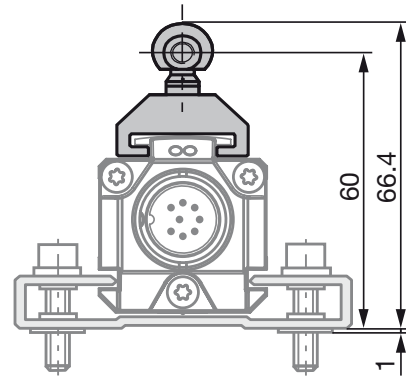
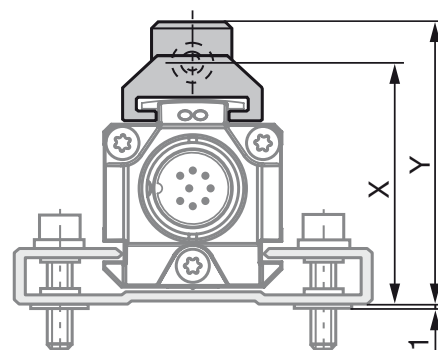
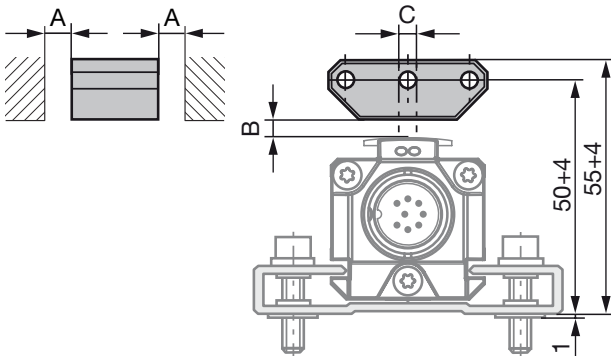
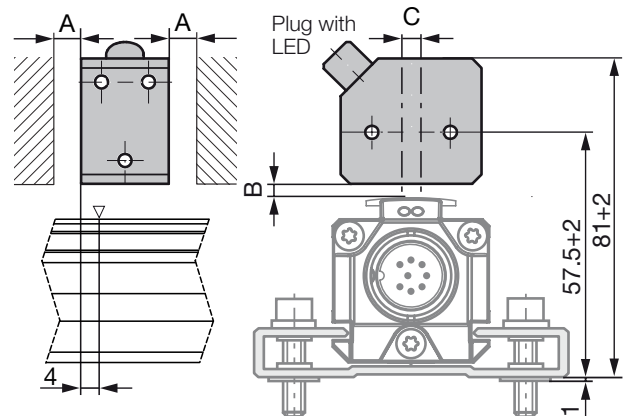

Fig. 4-1: Dimensions and distances with BTL5-F-2814-1S magnet
Fig. 4-3: Dimensions and distances with BTL5-M/N-2814-1S magnet
Fig. 4-4: Dimensions and distances with BTL5-P-3800-2 magnet
Fig. 4-8: Dimensions and distances with BTL5-P-4500-1 electromagnet (24 V/100 mA)
**i** The micropulse transducer in profile housing is suitable both for floating, i.e. non-contacting magnets (see Fig. 4-4 to Fig. 4-8) and for captive magnets (see Fig. 4-1 to Fig. 4-3).
- Ensure that the distance A between parts made of magnetizable material and the magnet is at least 10 mm (see Fig. 4-4 to Fig. 4-8).
- Maintain the following values for distance B between the magnet and transducer and for center offset C (see Fig. 4-4 to Fig. 4-8):
The measuring range is offset by 4 mm towards the transducer plug (see Fig. 4-8).